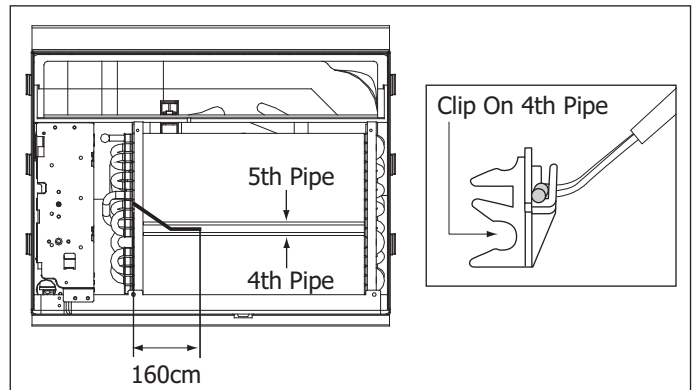

Figure 4-97.
4. Remove or cut any retaining straps. Remove thermistor from retaining bracket. The retaining bracket is pushed onto the evaporator tubing, remove by pulling bracket out of evaporator. (See Figure 4-97)